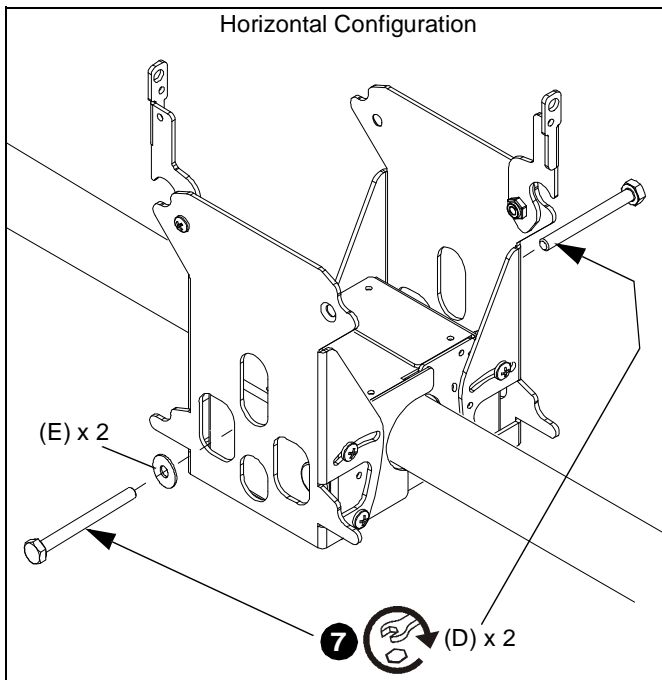

Figure 4
6. Assemble two FDP bracket halves (A) around pole for horizontal mounting. (See Figure 4)
7. Insert two 1/4-20 x 4-1/4" hex bolts (D) and two .75 x .26 x .048" spacers (E), then tighten to secure the two bracket halves against pole. (See Figure 4)